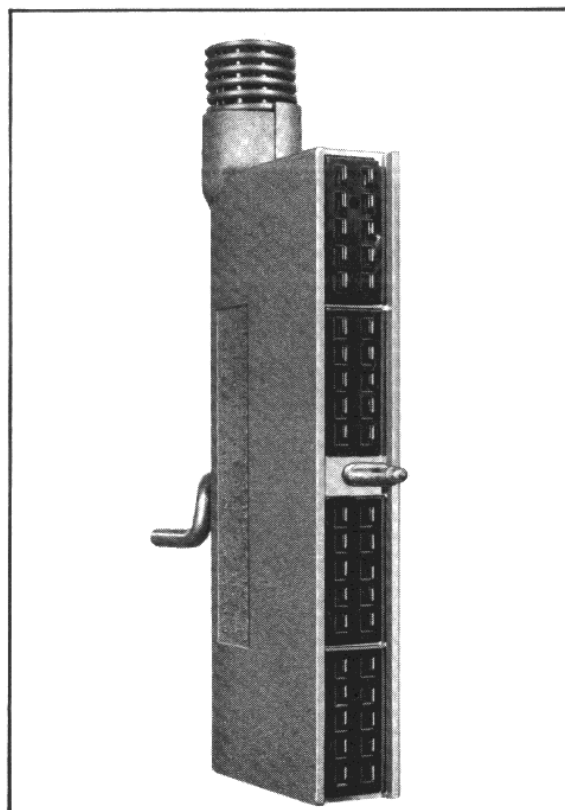

Figure 1-3.
1.2.2 Control Power Plug (Figure 1-3 & -1-4)
Control power for secondary control circuit is accomplished by installing the control power plug on the front of the circuit breaker element. This multi-contact plug (Fig. 1-3 & 1-4) is a "Jones" type plug. Each individual plug consists of ten contacts. Four plugs are mounted in each assembly for a total of 40 contacts. The wiring to the individual plug terminals is accomplished by a slip-on (faston type) connector.